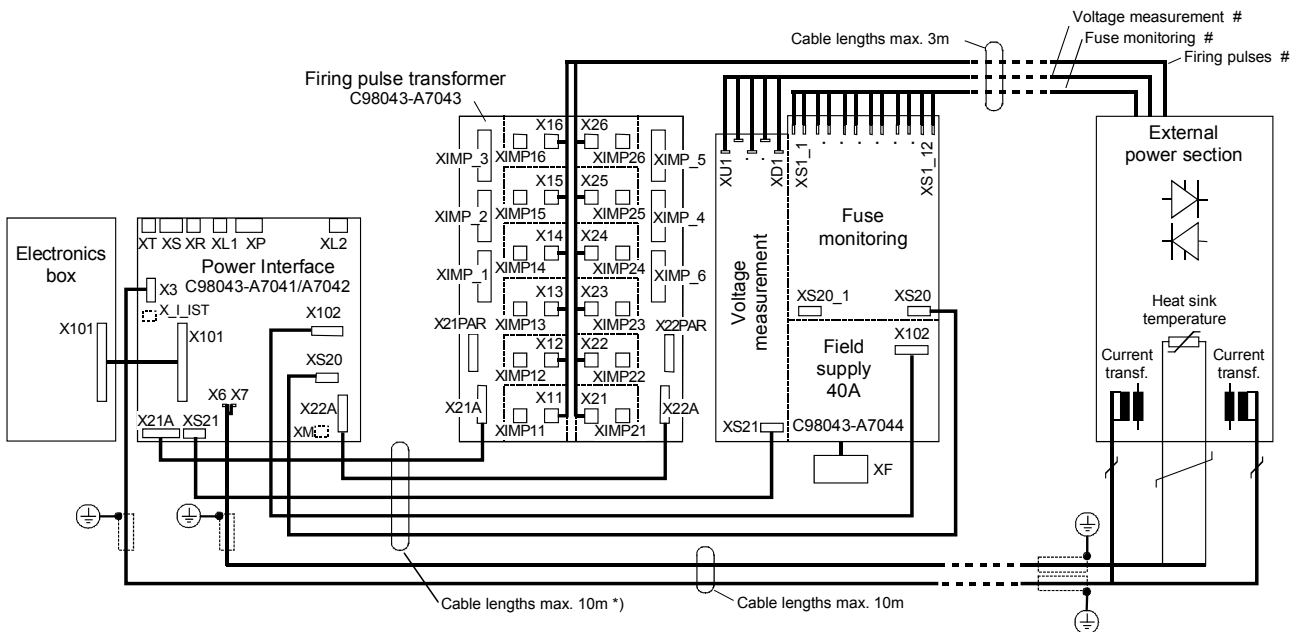

Fig. 6.4.1
**1. Rear and front troughs mounted one on top of the other or separately, modules C98043-A7043 and C98043-A7044 not separated (Fig. 6.4.1)**